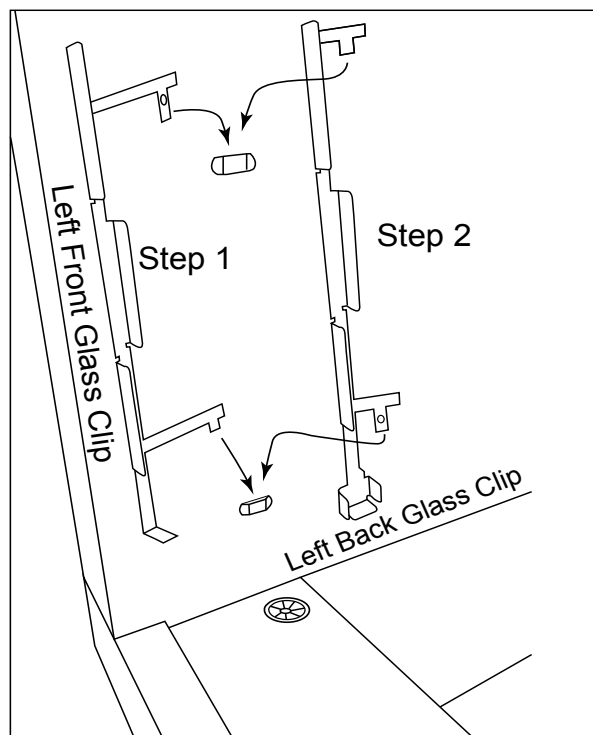

Fig. 17 Shows both glass clips being installed on right side of fireplace
Install the LED glass clips by sliding them down through the metal bridges as shown in Fig. 17. Install (1) clip on the left and (1) clip on the right side of the inner fireplace side panel. **Note:** If you are preparing a see-through fireplace you will install a total of (8) glass clips, two for each open side. The additional clips are supplied with the see-through conversion kit.